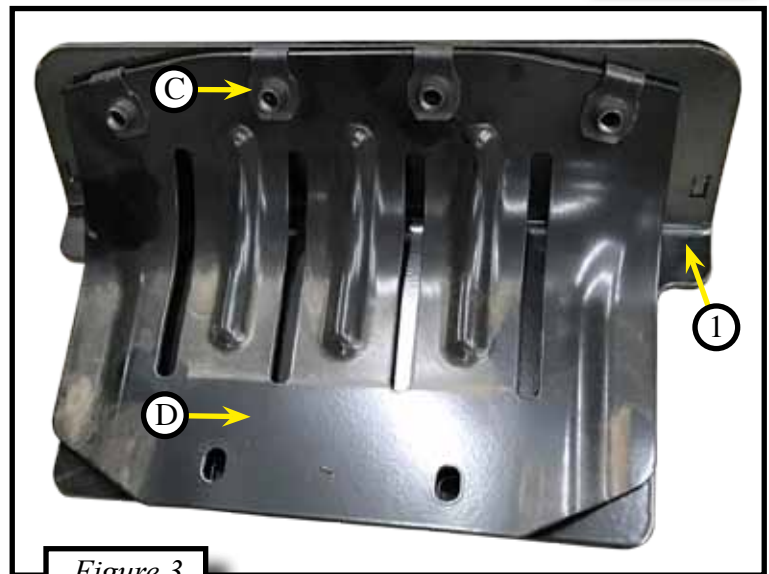

Figure 3
2. Line the clips (C) with the OEM holes on the skid plate (D). Shown on Figure 3.
3. Set the skid plate (D) on the the plow mount (1) Shown on Figure 3.